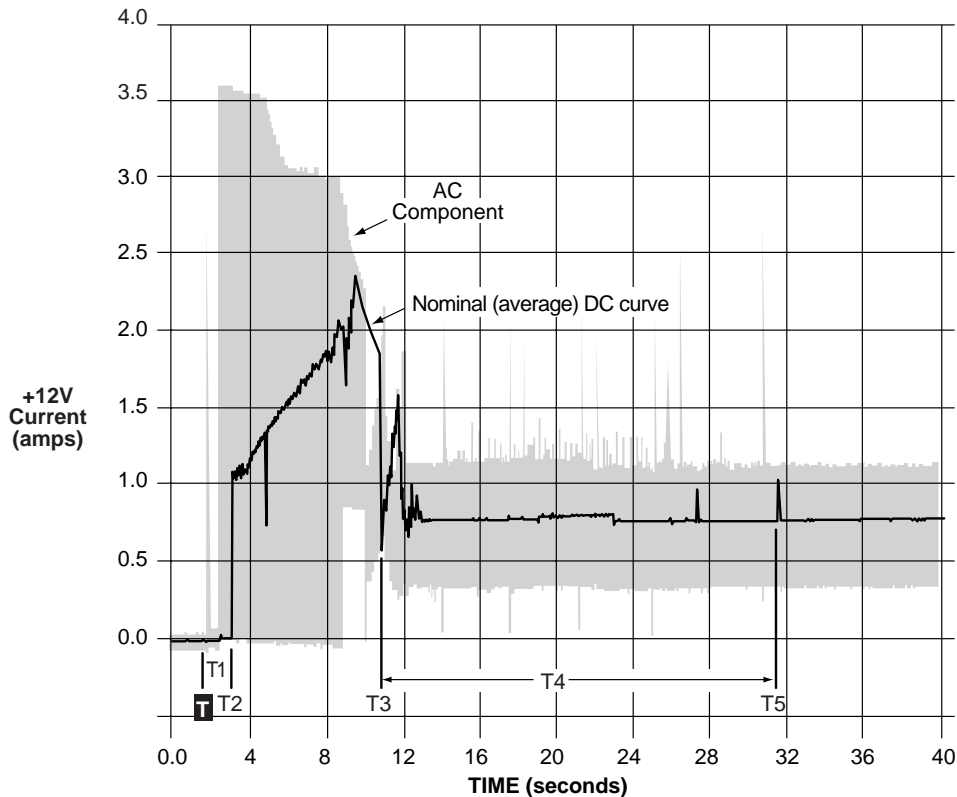

Figure 3a. Typical Barracuda 18 family drive +12 V current profile
- [3] See +12 V current profile in Figure 3a.
Figures 3a and 3b identify the drive +5 V and +12 V current profile. The current during the various times is as shown: